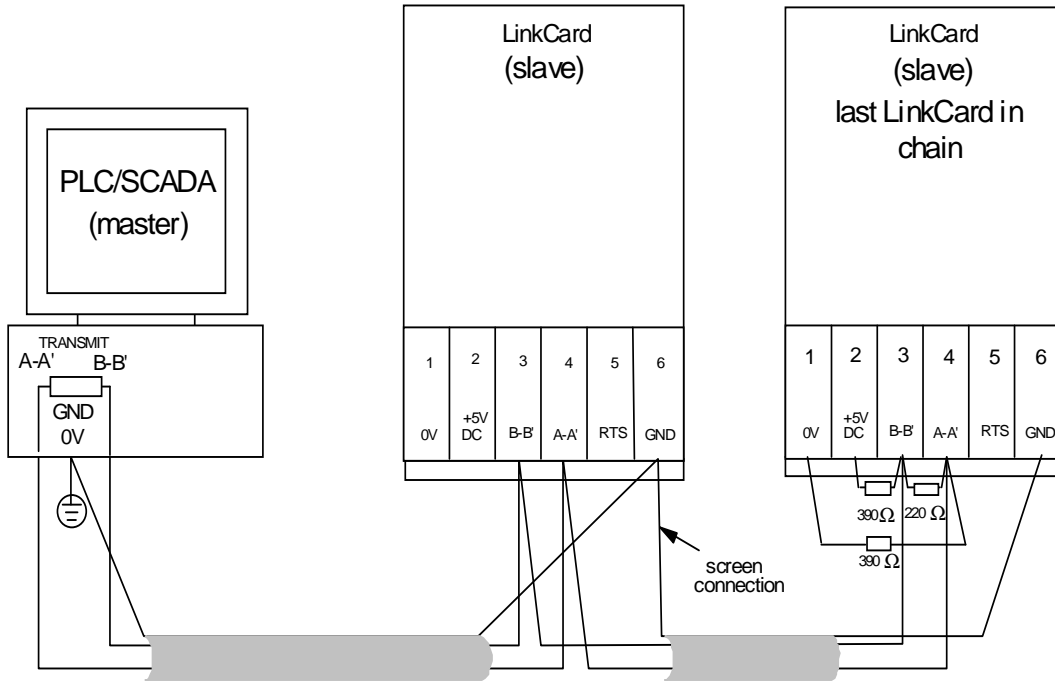

Figure 3 Typical Wiring Diagram
- Make all user-wiring connections. Refer to Wiring Diagram, Figure 3.